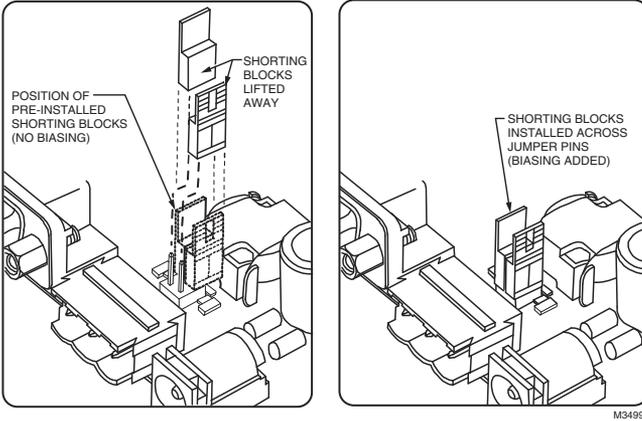

Fig. 8. Install shorting blocks across both sides of jumper block to add RS-485 bias.
- Locate the four jumper pins behind the RS-485 port, with 2-pin shorting blocks installed on one pin each. See Fig. 8.
- To add biasing, remove and replace both shorting blocks back onto the jumper pins, as shown in Fig. 8.